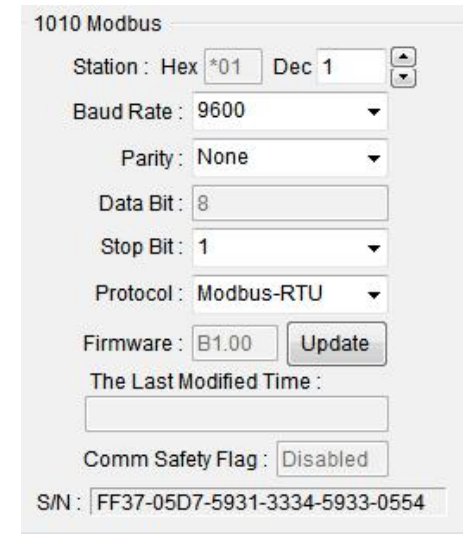

Figure 2
6) Communication parameter configuration, as shown in Figure 2.